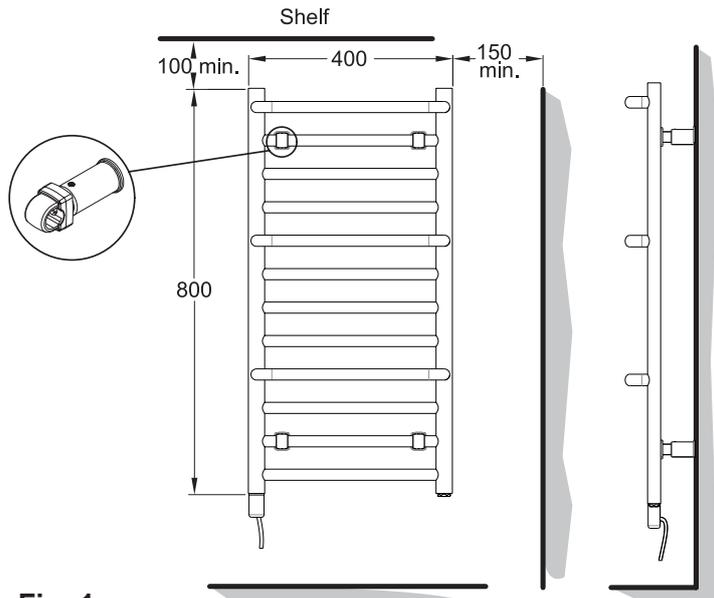
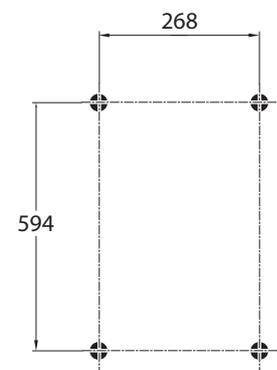
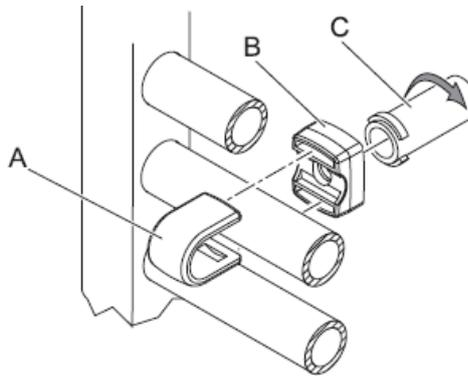

Fig. 1
Fig. 3
Fig. 5
WARNING: to ensure safe/ correct operation the rail must only be mounted vertically as shown in Fig. 1, observing the minimum clearances stated. The towel rail is heavy. Do not remove without seeking specialist advice.
1. Mark suitable mounting hole positions for the fixing brackets (ensuring they are horizontal) - see Fig. 3, ensure to allow enough room above and below to maintain the minimum clearance stated in Fig. 1.
3. Carefully assemble the four mounting collars (A) and rail seats (B) to the towel rail and secure in positions by inserting and turning the inner bracket sleeve (C) through 90 degrees as shown in Fig. 5. The brackets should be placed the rails indicated in Fig. 1 and at the distances shown in Fig. 3. Ensure that the inner bracket sleeves are facing directly backwards.